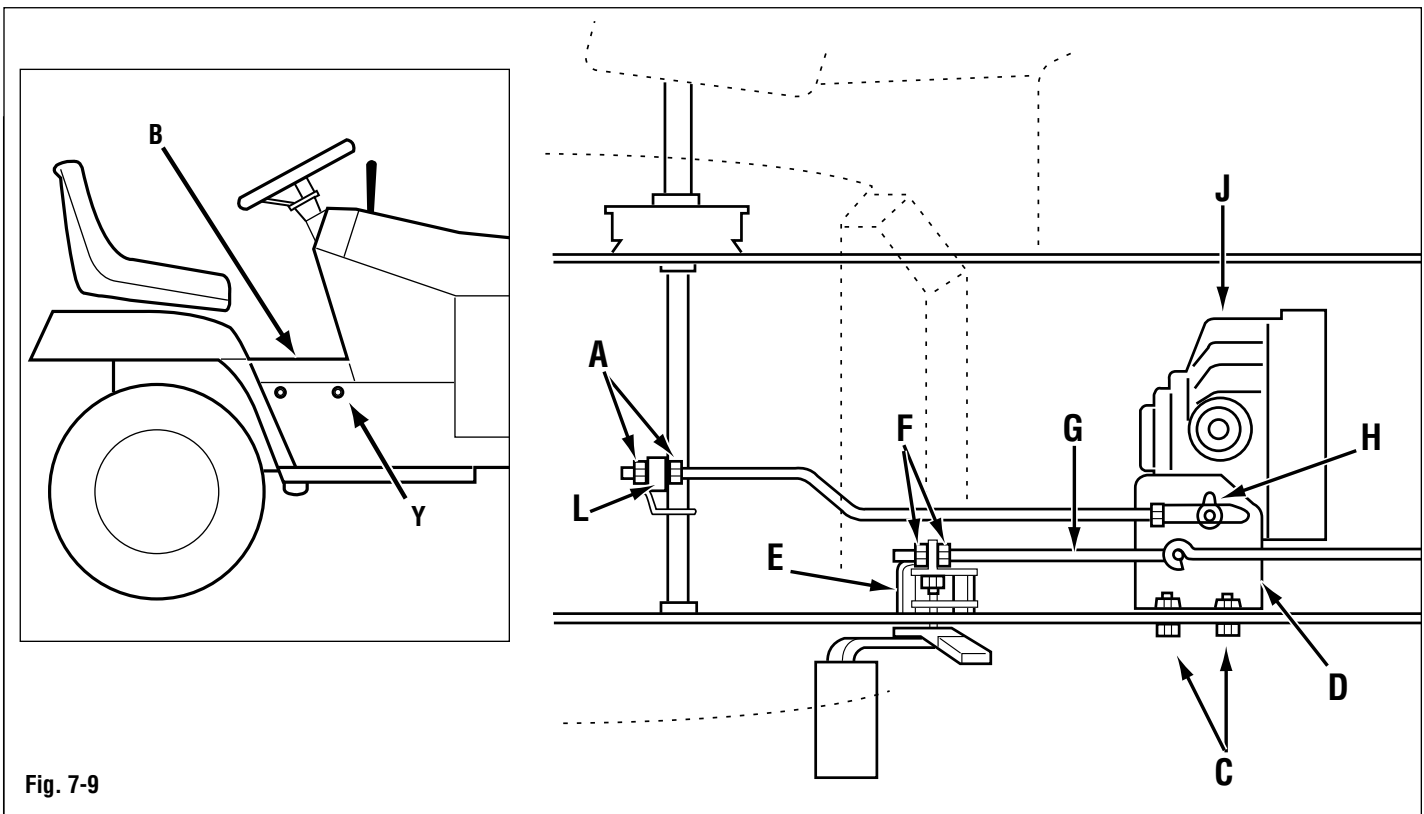

Fig. 7-9
3. Remove tractor chassis tunnel (B, Fig. 7-9) by removing the four screws (Y) indicated.
5. Loosen capscrews (C). Move support plate (D) forward if wheel rotates in a forward direction or move support plate toward the rear if it rotates in reverse.
6. Tighten capscrews (C) when wheels no longer rotate.
7. Stop engine and lock brake arm against stop (E).
8. Loosen jam nuts (F). Adjust jam nuts to lengthen or shorten rod until pin enters slot (H) of neutral plate. Adjust until there is a gap of 1/16 - 1/8" between end of slot and pin.